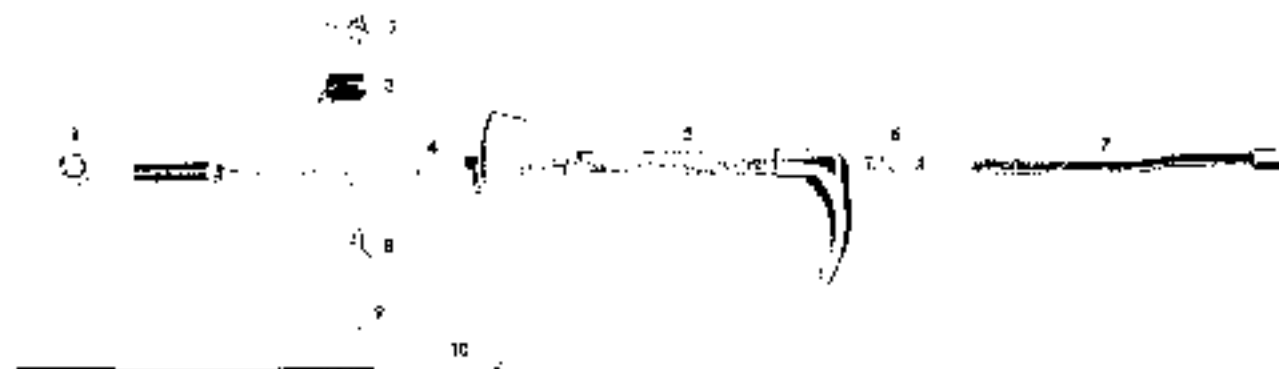

FIG. 374
File off the upset end of the rivet. Removal of the rivet (9, Fig. 374) then allows the removal of the plunger stop (8), latch spring (2), and latch (3). Withdraw the handle and plunger assembly and cable from the bracket and handle guide assembly (4). Unhook the cable (10) from the plunger (5). Press the trigger release rod (7) slipping the end of the rod from the notch in the lower end of the plunger and remove the release rod and spring (6) from the handle.
Install the spring (6, Fig. 374) on the release rod (7) and install the rod in the handle (5) placing the notch of the release rod in the notch in the lower end of the plunger. Attach the cable (10) to the end of the plunger. Thread the cable through the bracket and handle guide assembly (4) and install the handle and plunger assembly. Install the latch (3), latch spring (2), and plunger stop (8); align the holes of the three parts and the hole in the plunger and install a new retaining rivet (9). Peen the end of the rivet slightly.